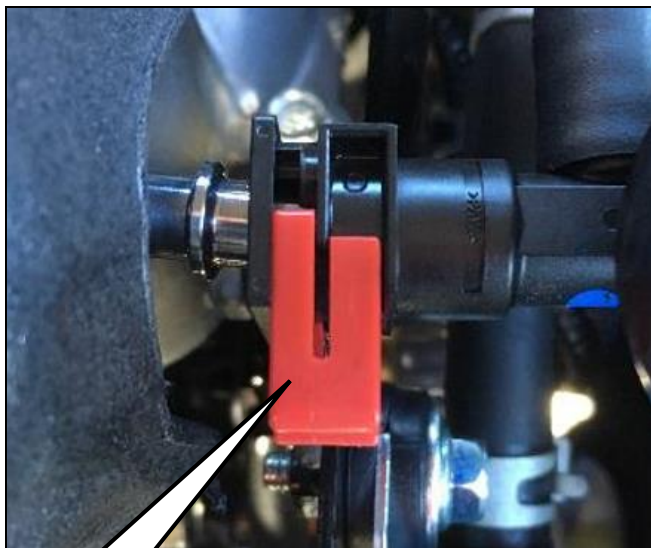

Figure 8
7. Repair Fuel Feed Tube Clip: Insert Fuel Hose until fully seated and push retainer clip until locked. Submit a warranty claim using OP Code PC6691 (See claims info), and release the vehicle (Figure 8).